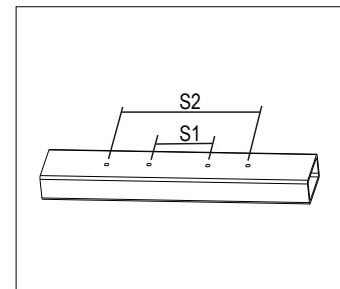

Figure 3
2. Drill two holes at the marked distance, S1 or S2, on the mounting bar (Figure 3).